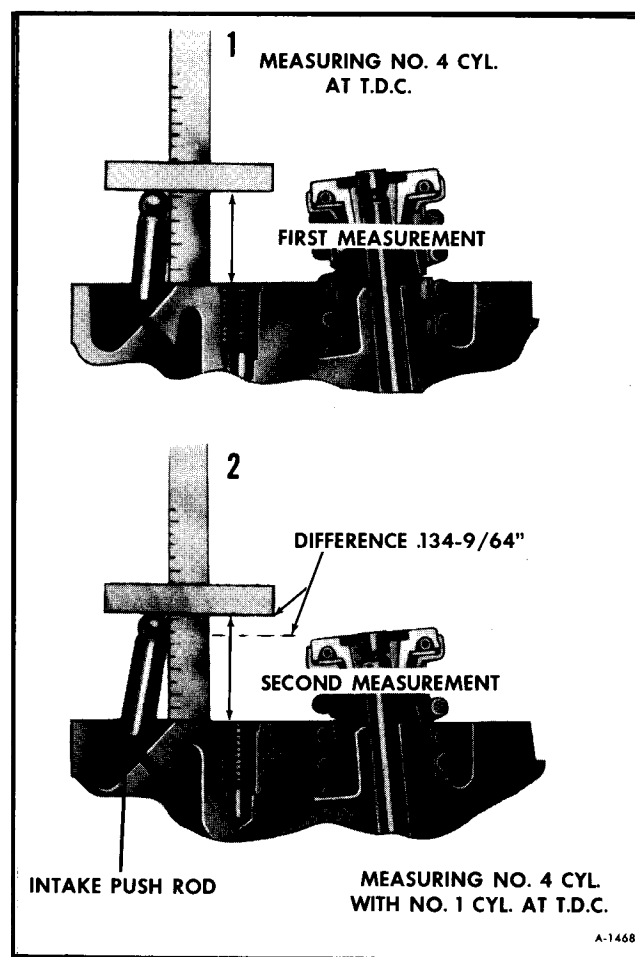

Figure 61—Checking Valve Timing
4. Measure from pivot boss on head surface to top of No. 4 intake push-rod. Record measurement. See Figure 61.
6. Again measure from pivot boss surface to top of No. 4 cylinder intake push-rod. See Figure 61.
7. Measurement should increase over the first measurement as shown in Figure 61.